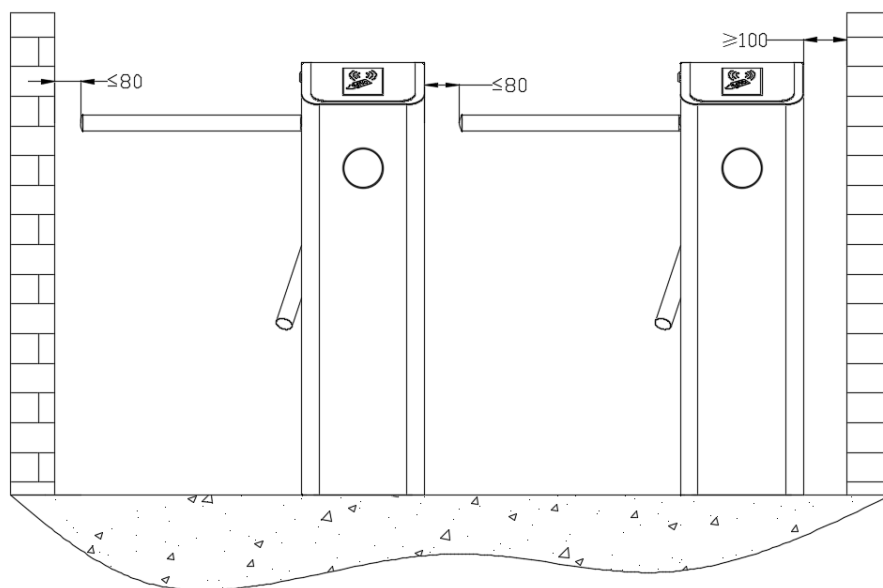

Figure 3-1
You are suggested to install an assistant framework or fence to form a passageway, as shown in Figure 3-1.
2. The spare space from the end of the arm shall not be greater than 80 mm (see Figure 3-1).